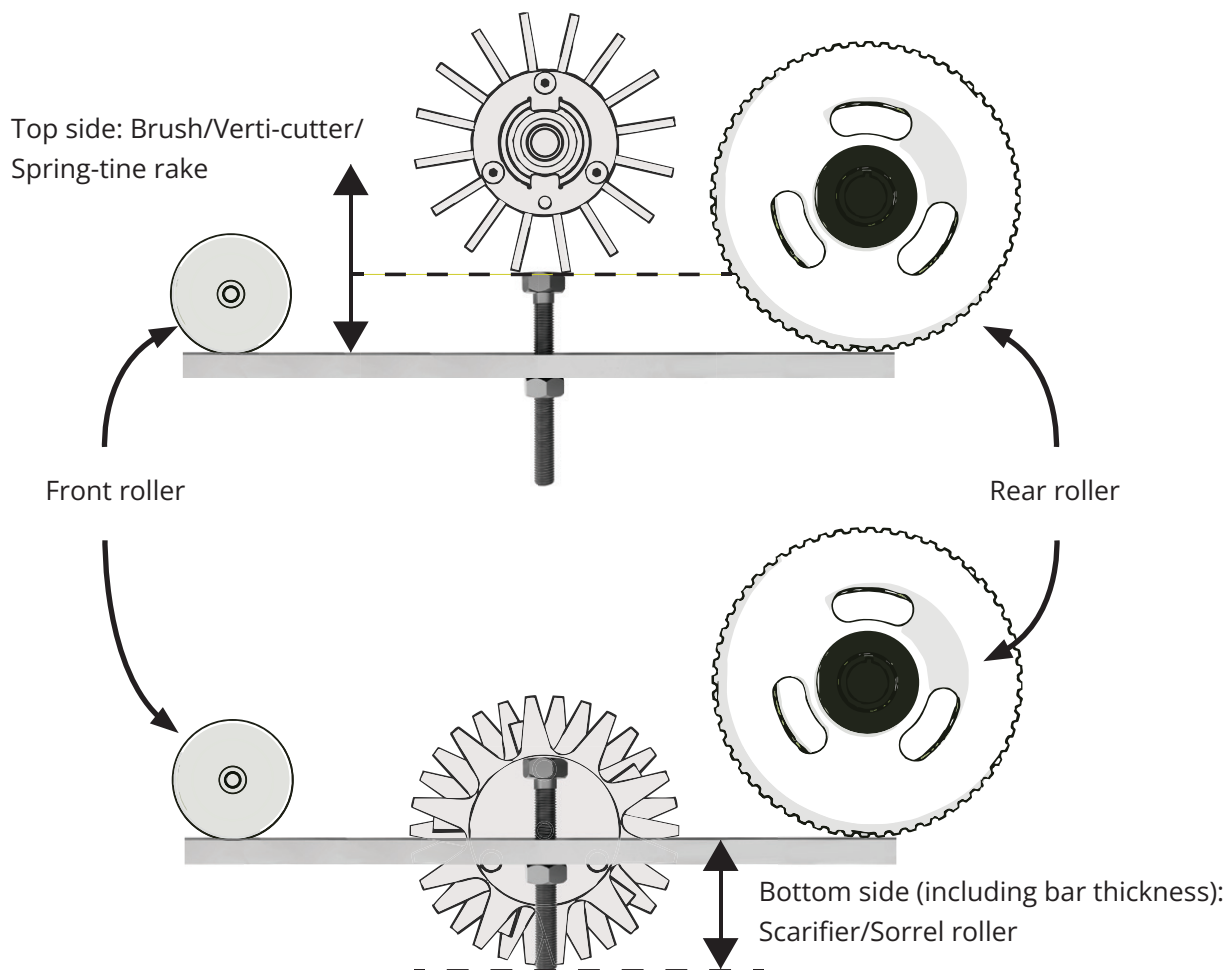

Fig.10. Setting bar measurement for above/below ground cassettes.
tively) is to that desired (Fig. 10). To note:
7. While adjusting the height, position up the setting bar again between the front and rear roller. Stop adjusting when either the tips of the brush hairs/verti-cutters are level with the bolt head, or the tips of the scarifier/sorrel roller are level with the bolt end. (Fig. 10).